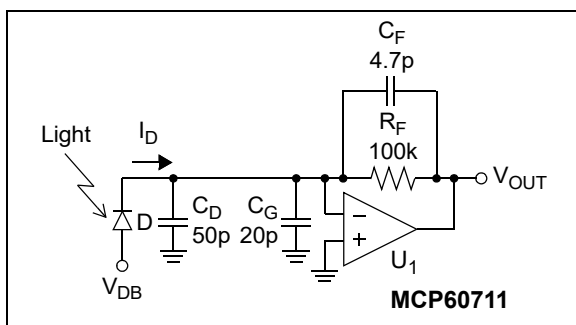

FIGURE 4-10: Photo-Diode Detector Circuit.
The circuit in Figure 4-10 has a photo-diode detector (D), which has parasitic capacitance C_D and produces an output current (I_D). V_{DB} biases D so that it's either in photo-voltaic mode (at 0V, like U_1 's noninverting input) or photo-conductive mode (less than 0V). Photo-voltaic mode has a linear response to light, while photo-conductive mode is faster.